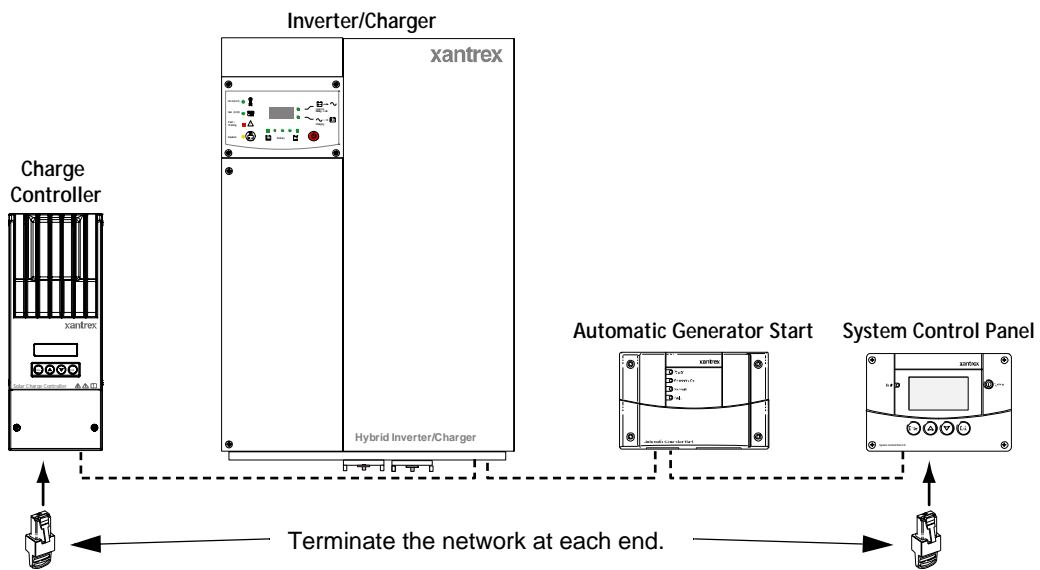

Figure 2-7 Xanbus Network Layout
Each device on the network is linked with separate lengths of Xanbus cable, as shown in Figure 2-7.
5. Insert a terminator into the open network port of the Xanbus-enabled device at each end of the network. See Figure 2-7.
Connect AC Sync cables in the same daisy-chain layout as Xanbus network cables (see Figure 2-7). Network terminators are not required for AC Sync connections.